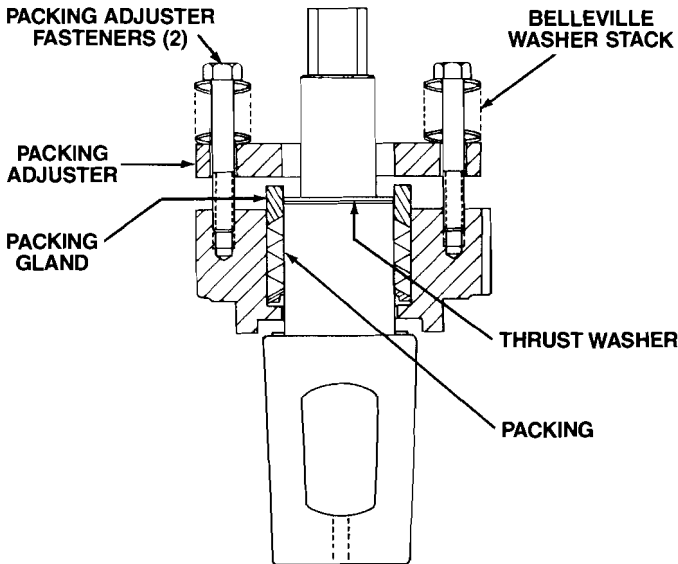

FIGURE VA-7
11. The packing adjuster is placed over the plug stem. Each fastener shall have twelve (12) Belleville washers placed as shown in Figure VA-7. The packing adjuster fasteners should be tightened finger tight. Care should be taken such that the packing adjuster remains level with respect to the top cap.
12. The thrust washer is placed over the plug stem and should lay flat against the plug stem bearing surface as shown in Figure VA-7.